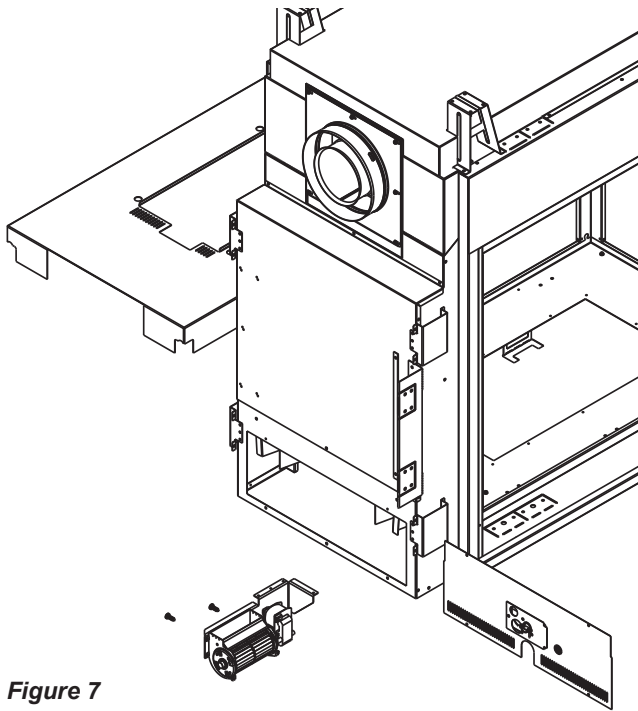

Figure 7
NOTE: At the time of fireplace installation (before framing), the blowers can be installed through the end access panel. *Figure 7*
2. Remove the glass frame by releasing the three (3) latches below the firebox opening. Lift glass frame up and away from unit.
5. Remove the four (4) screws, one in each corner of the end cover panel at the end closest to the pilot. *Figure 7*
6. Remove the blower mounting bracket from under the floor of fireplace by removing the two (2) screws in the floor for each bracket. *Figure 7*
7. Mount the blower to the mounting bracket with the #14 x 3/4 screws provided. *Figure 7*. **NOTE:** The blower may be mounted on either side of unit according to which side the air is to be discharge.